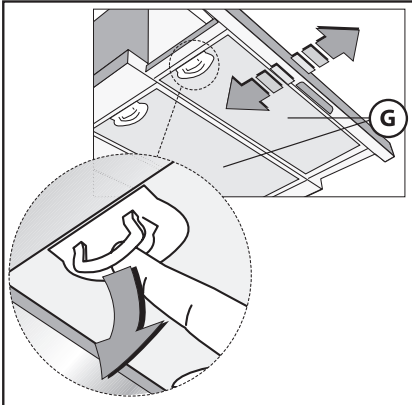
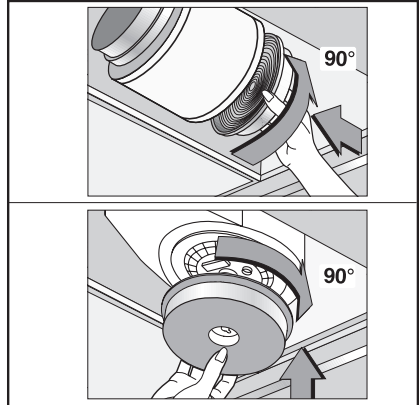

Fig.4
Fig.5
- The minimum distance between the support surfaces of the cooking pots on the cooker top and the lowest part of the cooker hood must be at least **65 cm**. If a connection tube composed of two parts is used, the upper part must be placed outside the lower part. Do not connect the cooker hood exhaust to the same conductor used to circulate hot air or for evacuating fumes from other appliances generated by other than an electrical source. Before proceeding with the assembly operations, remove the anti-grease filter(s) (Fig.4) so that the unit is easier to handle.
To transform the cooker hood from the extraction version to the re circulating one fit the supplied activated carbon filter. The filter must be fitted to the extracting group cooker hood in the centre of the fan grille by twisting it by 90 degrees until it is gripped securely (Fig.5). For this operation remove the anti-grease filter(s) **G** (Fig.4). The clean air is returned into the room through a connecting tube passing inside the cupboard and connected to the ring **H** (Fig.3B).